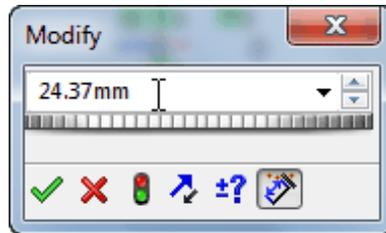

Figure 24 Length dimension shown on the Modify dialog box
- 25 Slowly click and hold the pointer over the length dimension that is between the vertical lines to open the Modify dialog box. The current distance is indicated, which may vary from the figure. See Figure 24.